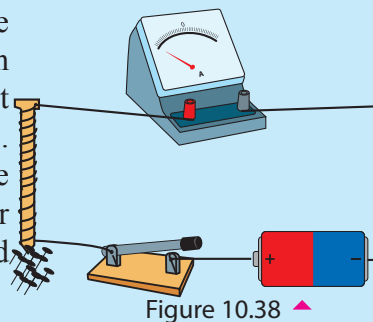

Figure 10.38 ▲
- (Step 4) Make another coil by winding more number of turns of copper wire round an iron nails as shown in Figure 10.38. Connect this coil with the nail to the circuit as before. Connect only one dry cell as shown in Figure 10.38. Close the switch and bring the nail closer to the pins. Count the number of pins attracted and record. Record the ammeter reading also.